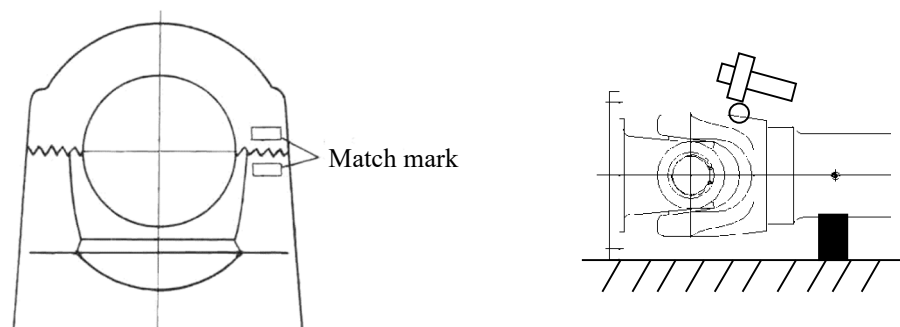

Figure 17
- Yokes and bearing caps have match marks stamped at the positions shown in Figure 17. Check that the match marks are the same signs.